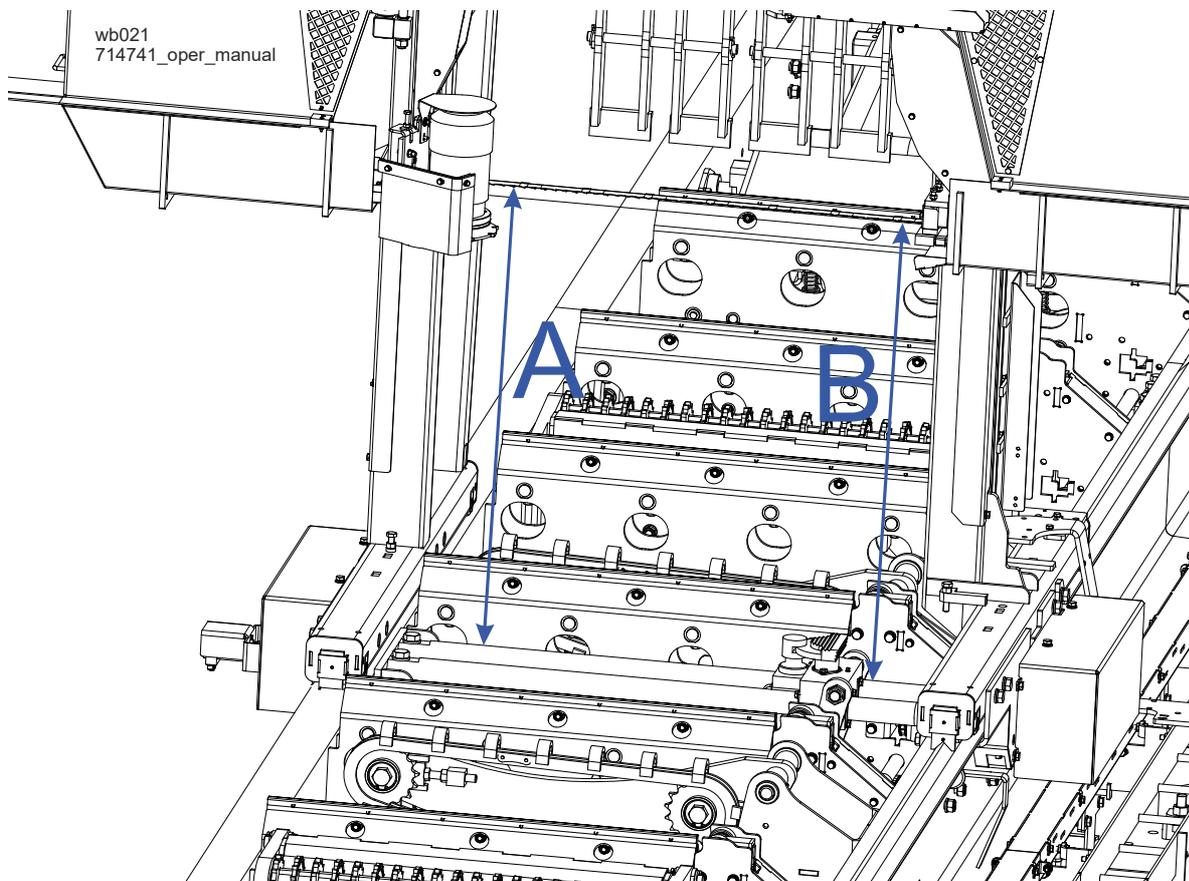

FIG. 5-6
See **Figure 5-6**. Make sure the blade guide blocks do not touch the blade. Position the saw head over the log clamp. Measure the distance from the rod of the blade clamp near the left (A) and right (B) blade guides. The measurements should be the same. If not, it is necessary to adjust the saw head tilt.